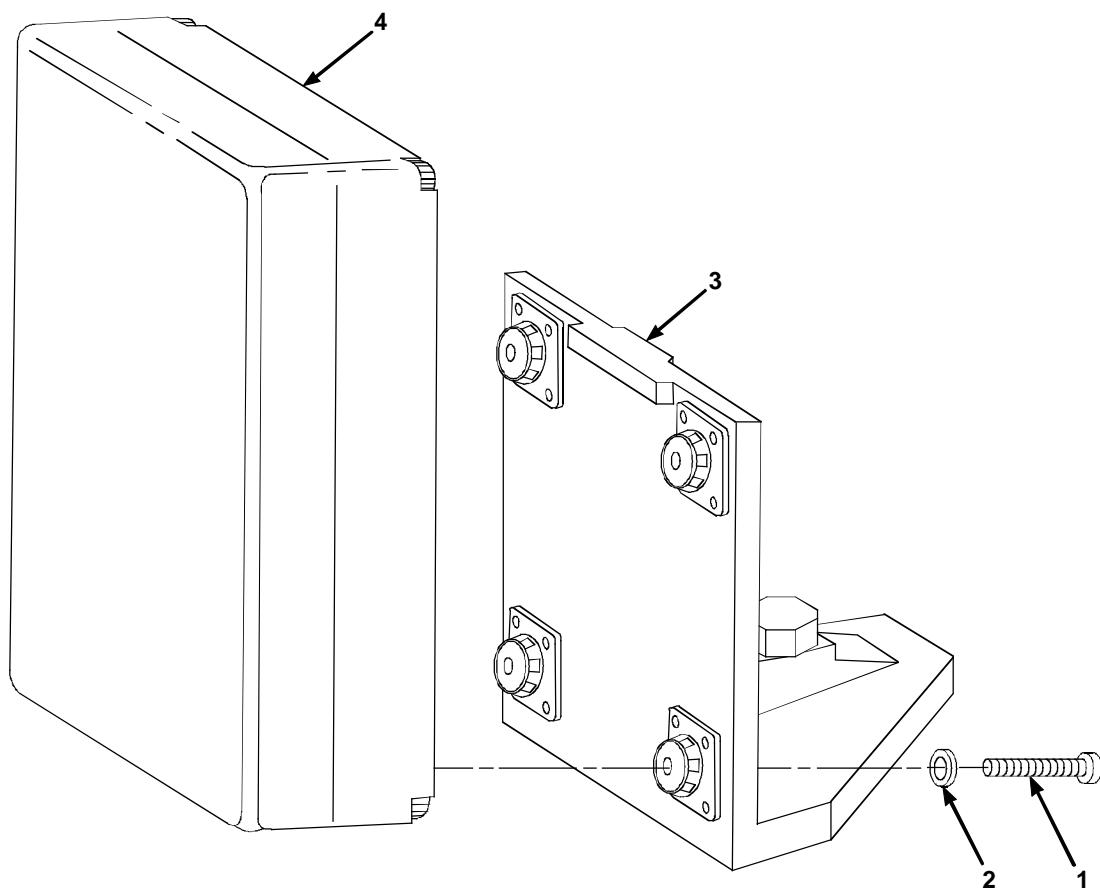
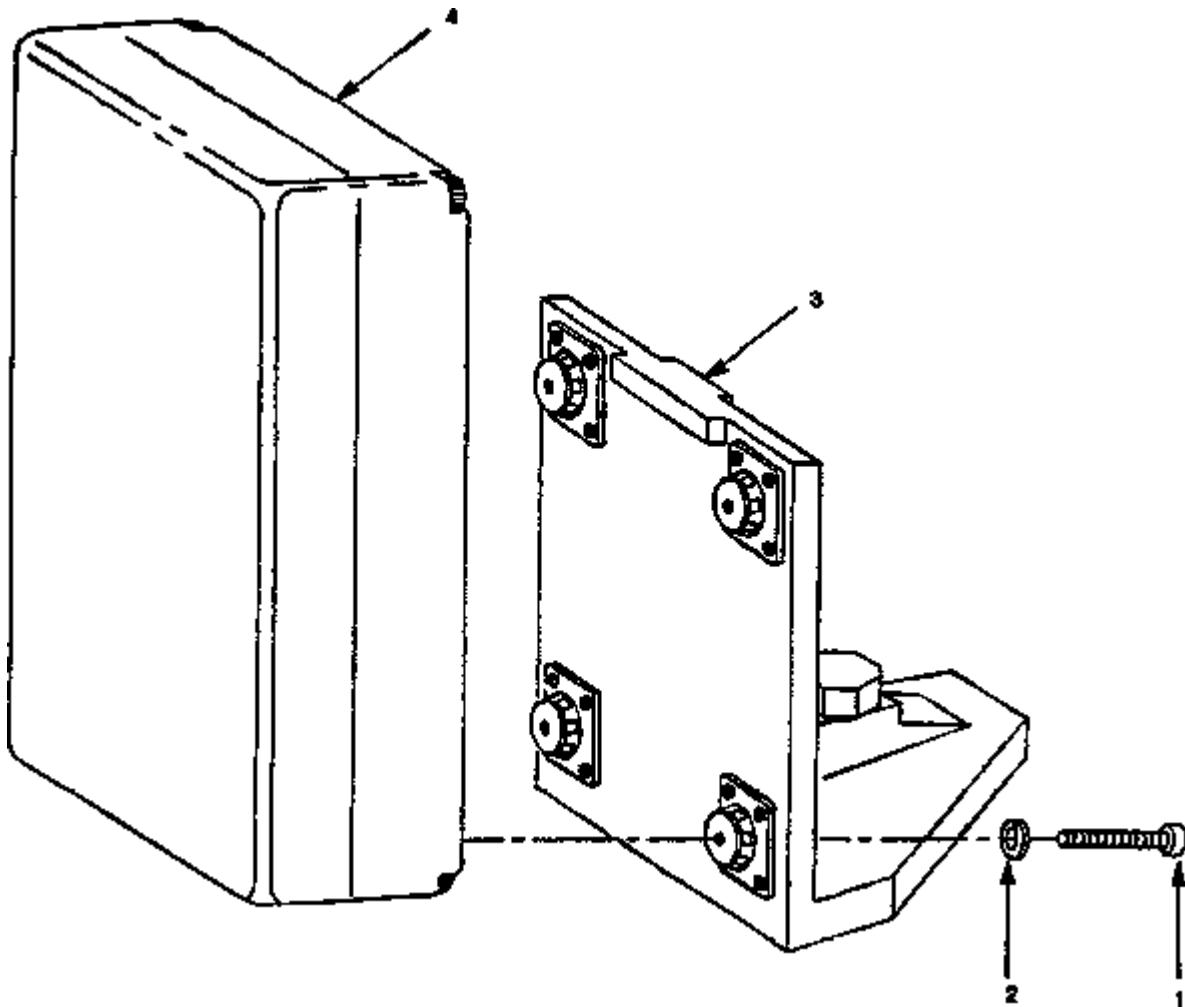

Figure 3-11. Bracket Assembly, P/N 1297003
Figure 3-12. Antenna Transceiver & Bracket Assy, P/N AY6709351-4, Removal and Installation
3.5.5. Disassembly. Refer to Figure 3-11. Disassemble Bracket Assembly as follows:
- a. Remove four screws (6), four lockwashers (7), and four flat washers (8) on each of the four resilient mounts (5) from machined bracket (4). Discard lockwashers (7).
- b. Unscrew and remove externally-relieved bolt (1), lockwashers (2) and round plain nut (3) from machined bracket (4).
3.5.6. Assembly. Refer to Figure 3-11. Assemble Bracket Assembly as follows:
- a. Insert lockwasher (3) and round plain nut (2) on externally relieved bolt (1).
- b. Screw externally relieved bolt (1) into machined bracket (4).
- c. Position four resilient mounts (5) on machined bracket (4) and secure each with four flat washer's (8), four new lockwashers (7), and 4 screws (6). Torque machine screws (6) to 9.8-10.8 in. lb (1.11-1.22 N.m).
3.5.7. Removal of Bracket from Transceiver Assy. Refer to Figure 3-12.
- a. Remove four hex socket screws (1) and four lockwashers (2).
- b. Remove Bracket Assy (3) from Transceiver Assy (4).
3.5.8. Installation of Bracket from Transceiver Assy. Refer to Figure 3-12.
- a. Attach Bracket Assy (3) and Transceiver Assy (4).
- a. Install four hex socket screws (1) and four lockwashers (2).
3.6.2. Removal. Refer to Figure 3-12. Remove Transceiver Assy as follows:
- a. Remove four screws (1) and four lockwashers (2) using 5-mm hex key wrench.
- b. Remove Transceiver Assy (4) from Bracket Assy (3).
3.6.3. Installation. Refer to Figure 3-12. Install Transceiver Assy to Bracket Assy as follows:
- a. Attach Transceiver Assy (4) to Bracket Assy (3).
- a. Install four screws (1) and four lockwashers (2) using 5-mm hex key wrench.